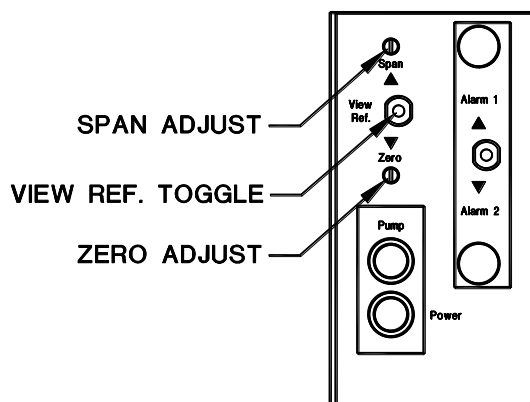

Figure 9: Calibration Controls
1. Locate the View Ref. toggle switch. See Figure 9